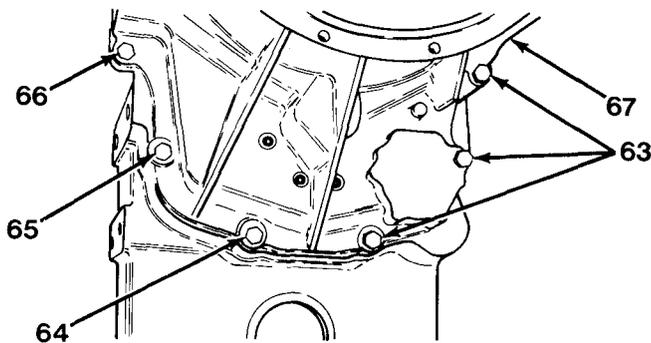

Figure 11-16
35. Invert transmission and remove three capscrews (63) and capscrews (64), (65) and (66) holding front cover (67, Figure 11-16) to transmission main case.